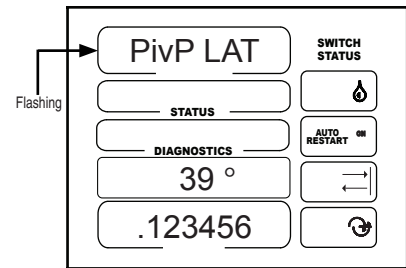

Figure 46-2
1. PivP LAT should be flashing and the pivot point latitude value is displayed. Default latitude is 90°. See figure 46-2.